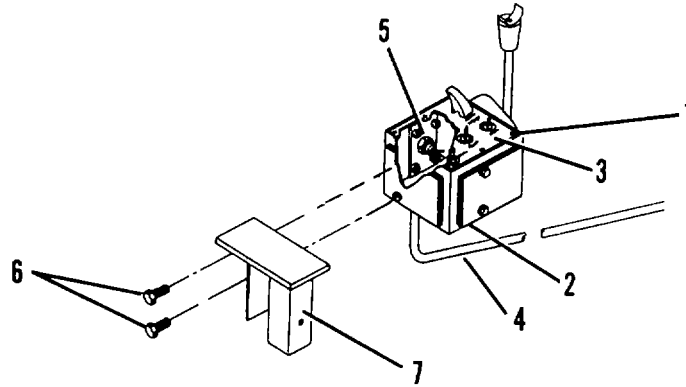

Figure 4-1 . Control Box Replacement (Sheet 2 of 2) .
- (1) Remove eight screws (1, Figure 4-1) from control box (2).
- (2) Lift cover and gasket (3) and allow to hang.
- (3) Tag each wire in cable (4) for ease of reassembly.
- (4) Disconnect each wire in cable (4).
- (5) Remove elbow (5) with cable (4) from control box (2).
- (6) Carefully pull cable (4) out of control box (2).
- (7) Remove two capscrews (6) securing bracket (7) to control box (2).